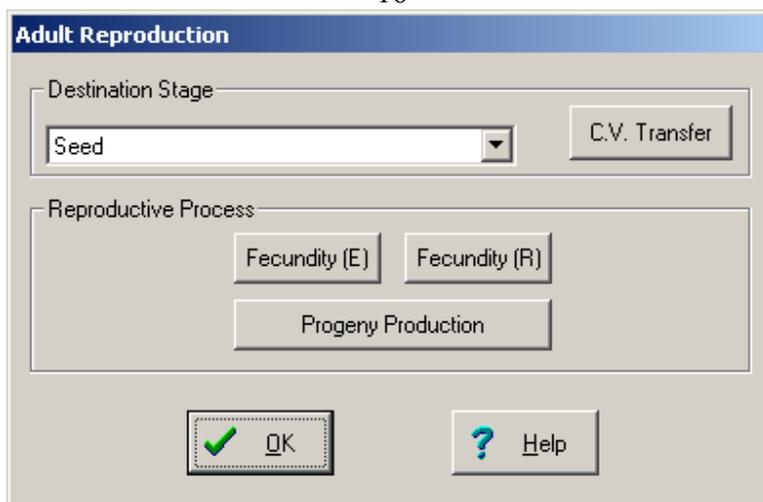

Figure 1.9 Reproduction Dialogue Box
Reproductive parameters are set from the '**Reproduction**' dialogue box (Figure 1.9 and its three components are **Fecundity (E)**, **Fecundity (R)** and **Progeny Production**. In DYMEEX, **Fecundity** is a property that specifies the number of 'potential' seeds that are available to be produced (by the **Progeny Production** process) at any time. "**Fecundity (E)**" (where the E stands for 'establishment') is the process that that establishes a value for Fecundity when an individual enters the lifestage. By contrast, **Fecundity (R)** (R = 'recharge') can be used to "recharge" the Fecundity periodically. **Fecundity (E)** is most appropriate in models of insects, as adult insects can be considered to have a potential egg laying capacity (often dependent on larval nutrition) that is then exhausted through the adult stage. The same would also apply to annual plants. For most perennial plants, however, the fecundity will be determined annually based upon factors such as the size of the plant and the growing seasonal growing conditions prior to flowering. Hence, the **Fecundity (R)** process would be most appropriate for such models.